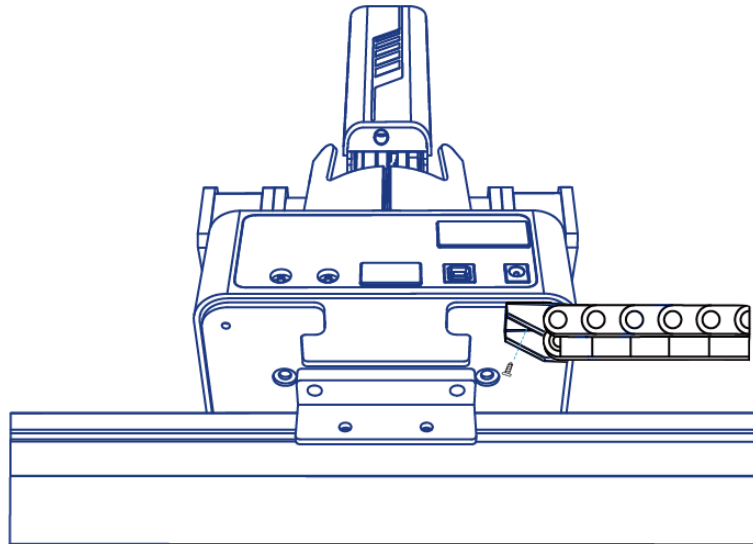

Figure 1.4 Connect with wire set
Step 3 Connect the end of the wire set to the plate b with a M3*6 countersunk head hexagon screw, as shown in Figure 1.4.